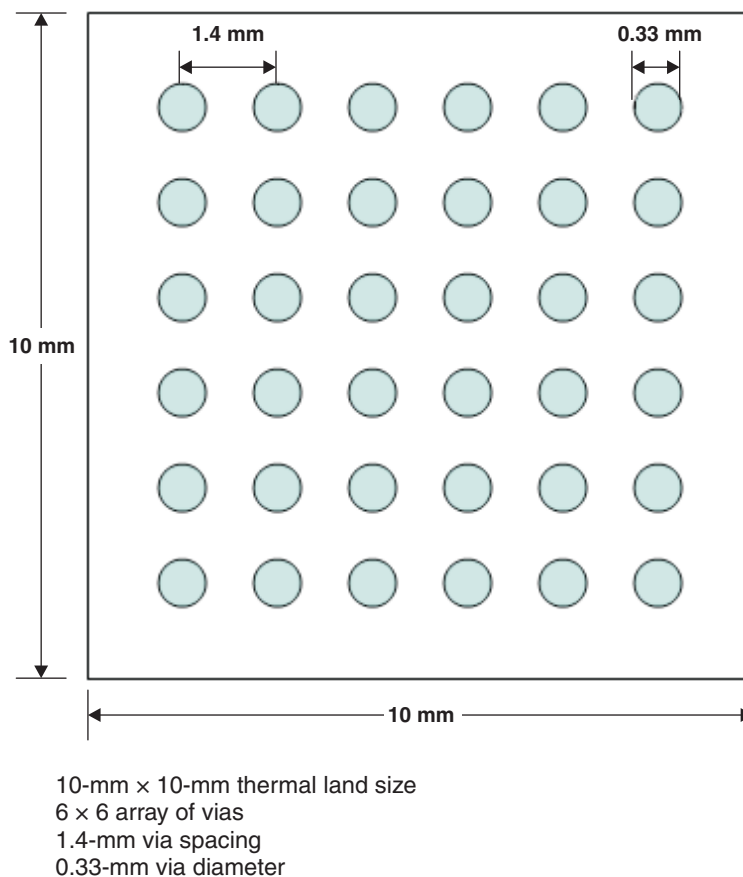

Figure 5-1. Thermal Land Size and Via Array
- An array of thermal vias should be placed in the board at the placement location of the TVP9900, as shown in Figure 5-1.